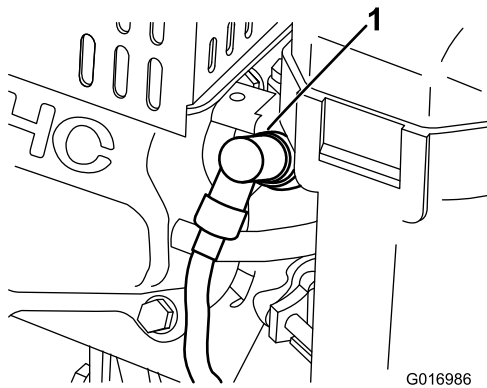

Figure 27
1. Pull the molded wire off of the spark plug (Figure 27).